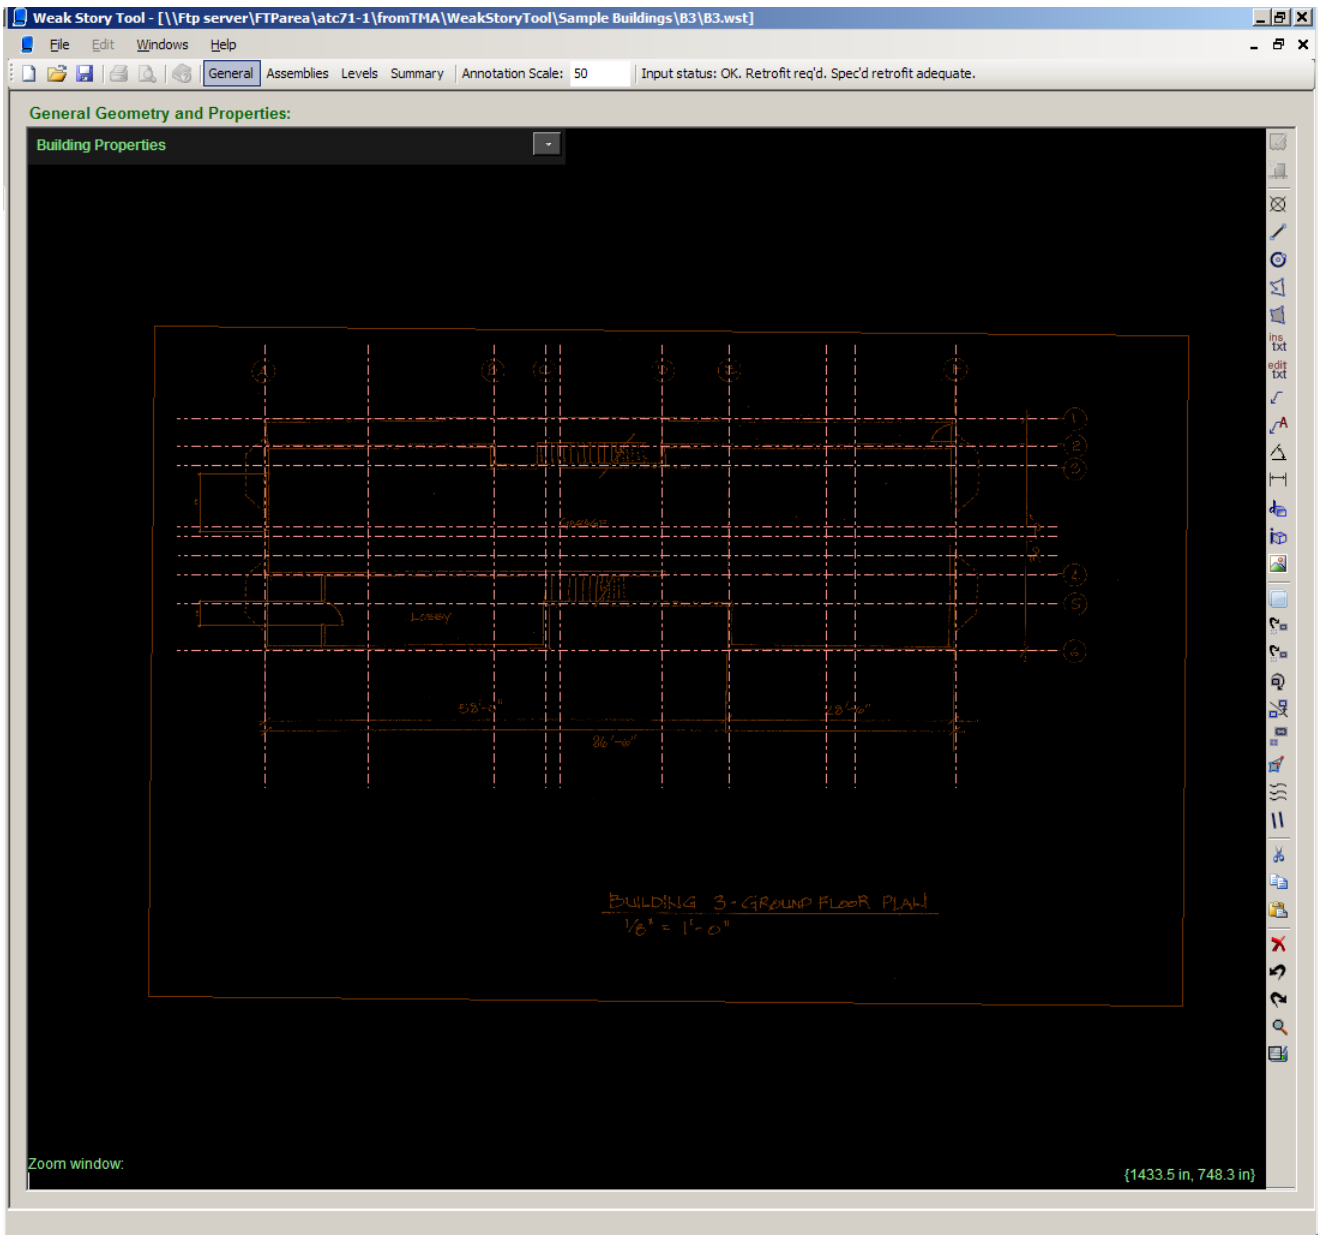

Figure A-4 Reference geometrical input for sample building.
2. : Draw line. Lines may be drawn to define gridlines for laying out the walls in the *Levels* control (see Figure A-4)